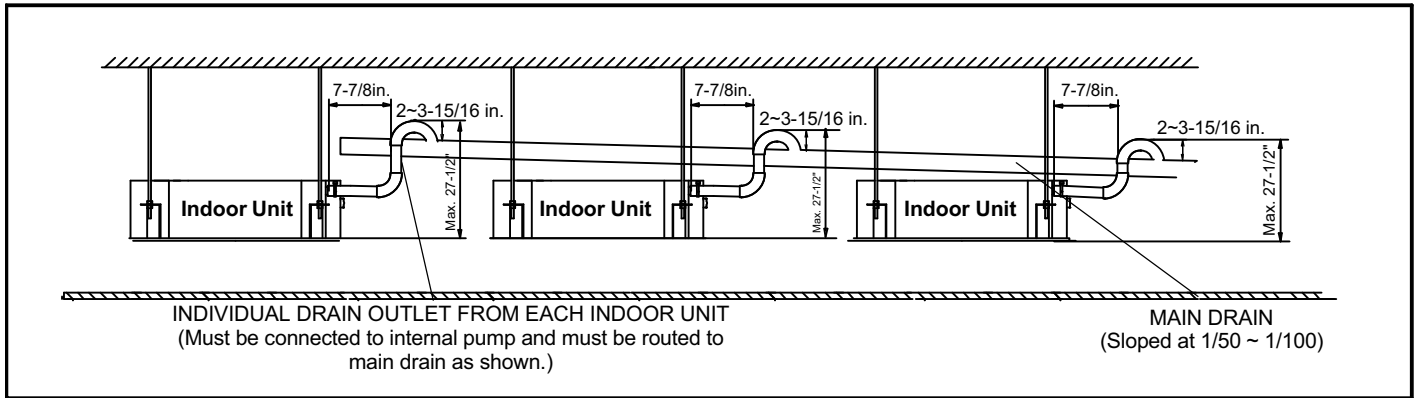

Figure 12. Using a Main Drain to Serve Multiple Indoor Units with Internal Condensate Pumps
- 5 - See figure 12 for applications including multiple units using the internal pump to provide lift into a single, correctly sized main drain. In this case, ensure that the main drain line is properly sloped (no less than 1/4 inch per foot) and that each individual drain is connected to the main drain exactly as shown.